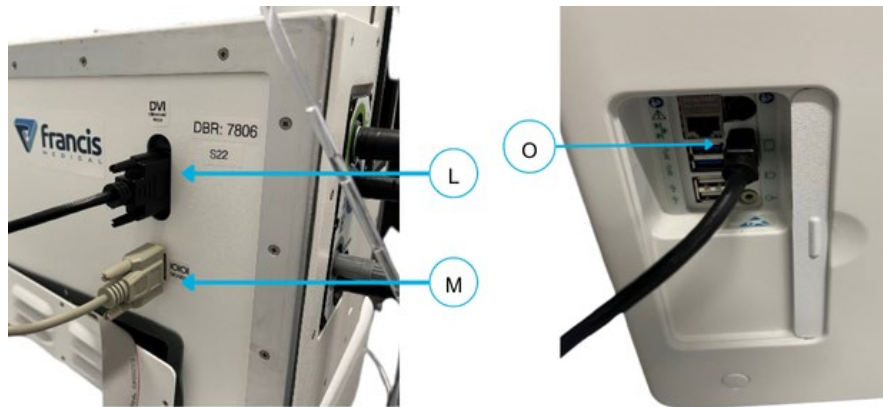

Figure 10-6: Generator to Ultrasound Connections
8. Use the **HDMI to DVI cable** to connect the Ultrasound (HDMI) to the Vanquish Generator (DVI) (**Figure 10-6**).